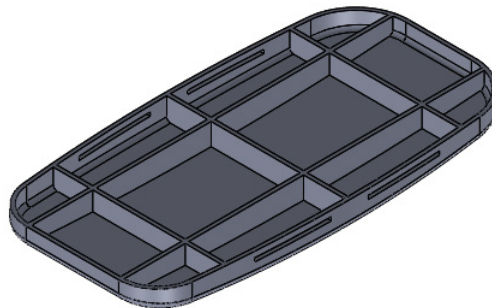

Figure 21-59 Model of the cover
- a. Start a new SOLIDWORKS document and using the standard modeling tools, create the model of the cover, refer to Figure 21-59.
2. Using the standard modeling tools, create the model of the cover. The completed model of the cover is displayed in Figure 21-59.